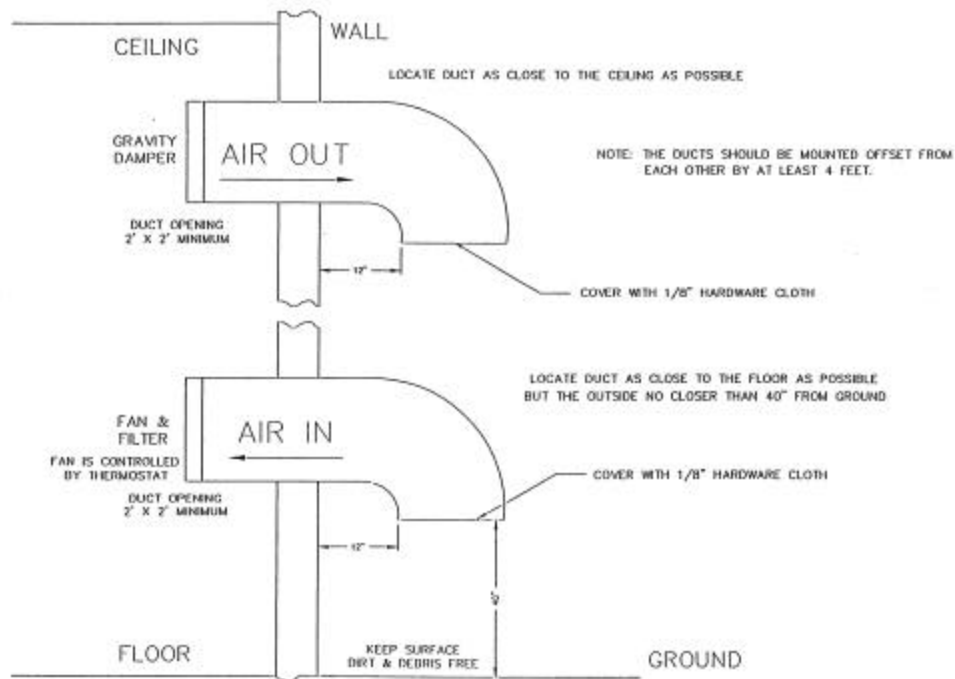

Figure 3-1. 1 kW Minimum Ventilation Configuration
| <p>not be carried in with the cooling air.</p> <p>5. The exhaust should be located as high as possible. Some ducting is usually required to insure the complete flushing of heated air with no stagnant areas.</p> <p>6. The filter area must be large enough to insure a maximum air velocity of 300 feet per minute through the filter. This is not a conservative number but a never-exceed number. In a dusty or remote location, this number should be reduced to 150 CFM.</p> <p>7. The inlet and outlet(s) must have automatic dampers that close any time the ventilation blower is off.</p> <p>8. In those cases in which translators are regularly off for a portion of each day, a temperature-differential sensor that controls a small heater must be installed. This sensor will monitor inside and outside temperatures simultaneously. If the inside temperature falls to within 5° F of the outside temperature, the heater will come on. This will prevent condensation when the ventilation blower comes on and should be used even in the summer.</p> <p>9. A controlled-air bypass system must be installed to prevent the temperature in the room from falling below 40° F during translator operation.</p> <p>10. The blower should have two speeds, which are thermostatically controlled, and be interlocked with the translator.</p> <p>11. The blower on high speed must be capable of moving the required volume of air into a half inch of water pressure at the required</p> | <p>elevation. The free air delivery method must not be used.</p> <p>12. Regular maintenance of the filters, if used, can not be overemphasized.</p> <p>13. Above 4000 feet, for external venting, the air vent on the cabinet top must be increased to an 8-inch diameter for a 1-kW translator and to a 10-inch diameter for 5-kW and 6-kW translators. An equivalent rectangular duct may be used but, in all cases, the outlet must be increased by 50% through the outlet screen.</p> <p>14. It is recommended that a site plan be submitted to Axcera for comments before installation begins.</p> <p>In calculating the blower requirements, filter size, and exhaust size, if the total load is known in watts, 2000 CFM into ½ inch of water will be required for each 5000 watts. If the load is known in BTUs, 2000 CFM into ½ inch of water will be required for each 17,000 BTUs. The inlet filter must be a minimum of seven square feet, larger for dusty and remote locations, for each 5000 watts or 17,000 BTUs. The exhaust must be at least four square feet at the exhaust screen for each 5000 watts or 17,000 BTUs.</p> <p>The information presented in this section is intended to serve only as a general guide and may need to be modified for unusually severe conditions. A combination of air conditioning and ventilation should not be difficult to design (see Figure 3-1).</p> <p>System interlocking and thermostat settings should be reviewed with Axcera. As with any equipment installation, it is always good practice to consult the manufacturer when questions arise. Axcera can be contacted at (724) 873-8100.</p> |